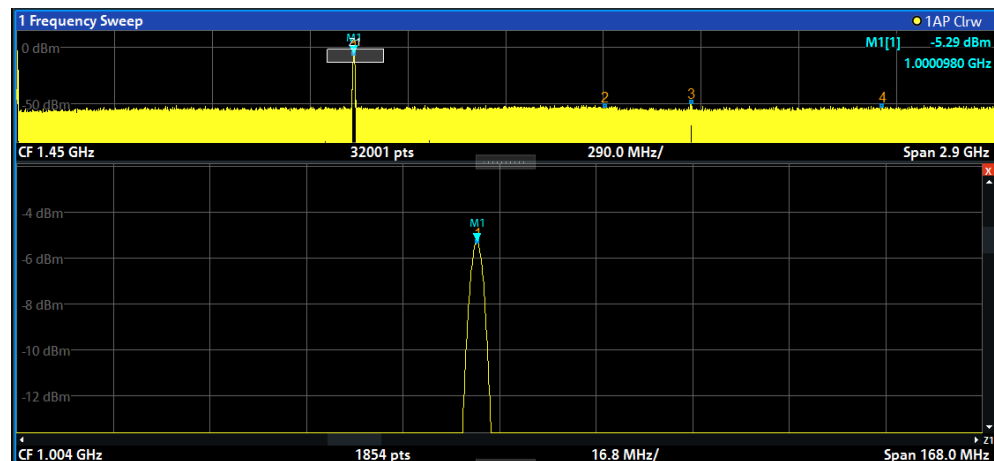

Figure 4-17: Zoomed peak with increased number of sweep points
3. In Figure 4-17, the enlarged peak is represented by a very thick trace. This is due to the insufficient number of sweep points. The missing sweep points for the zoomed display are interpolated, which provides poor results. To optimize the results, we will increase the number of sweep points from the default 1001 to 32001.